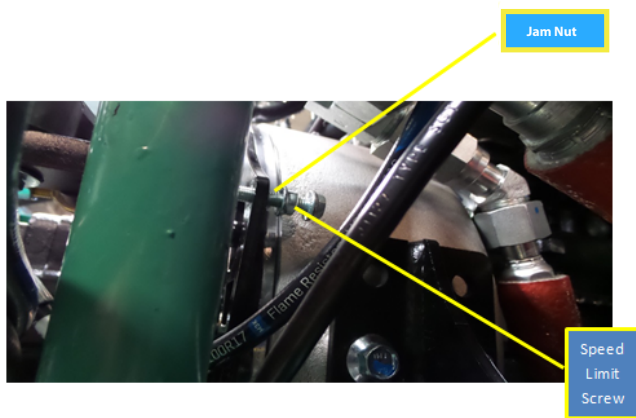

Figure 38. Right Side Trowel Speed Adjustment
4. Adjust speed limit screw and tighten jam nut (Figure 38).